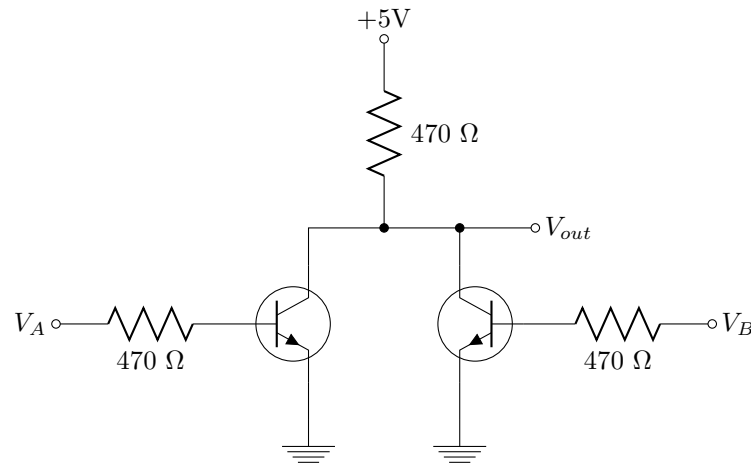

Figure 7: A two-input digital logic gate.
**Question 6:** Figure 7 shows another digital logic circuit with two inputs. What logic operation does this circuit perform? Explain why it works this way. (You do not need to build this circuit).